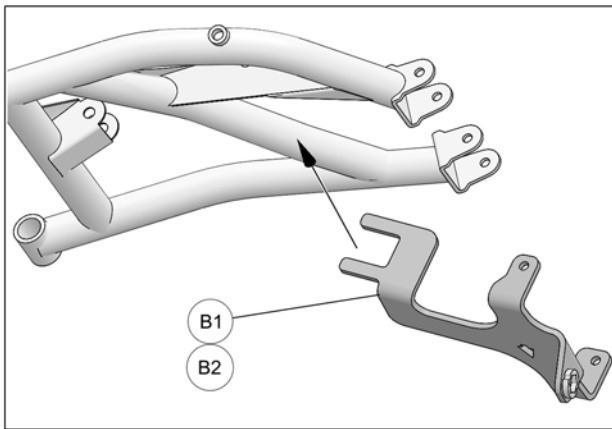

Fig. 5
5. Hook the back end of anchor bracket (B1-B2) on cross-member of lower suspension arm. See Fig. 5